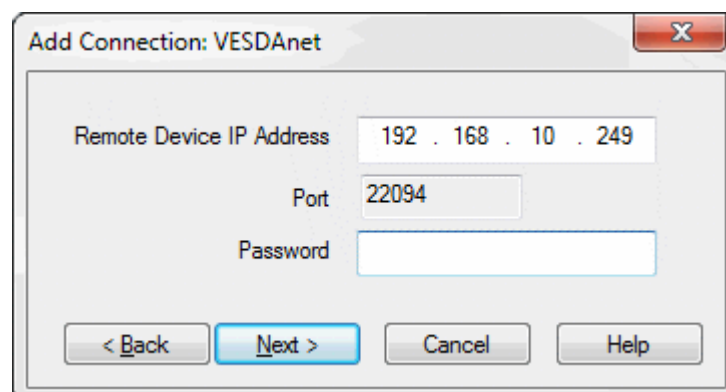

Figure 5-6: Enter IP Address
2. Enter the IP address of the detector. Enter the password that has been set for Ethernet authentication. Select **Next** (Figure 5-6).